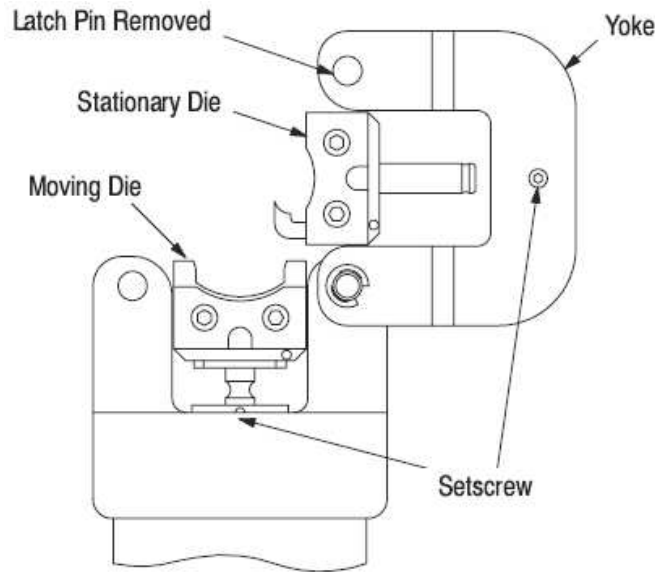

Figure 3
4. DIE INSERTION AND REMOVAL (FIGURE 3)